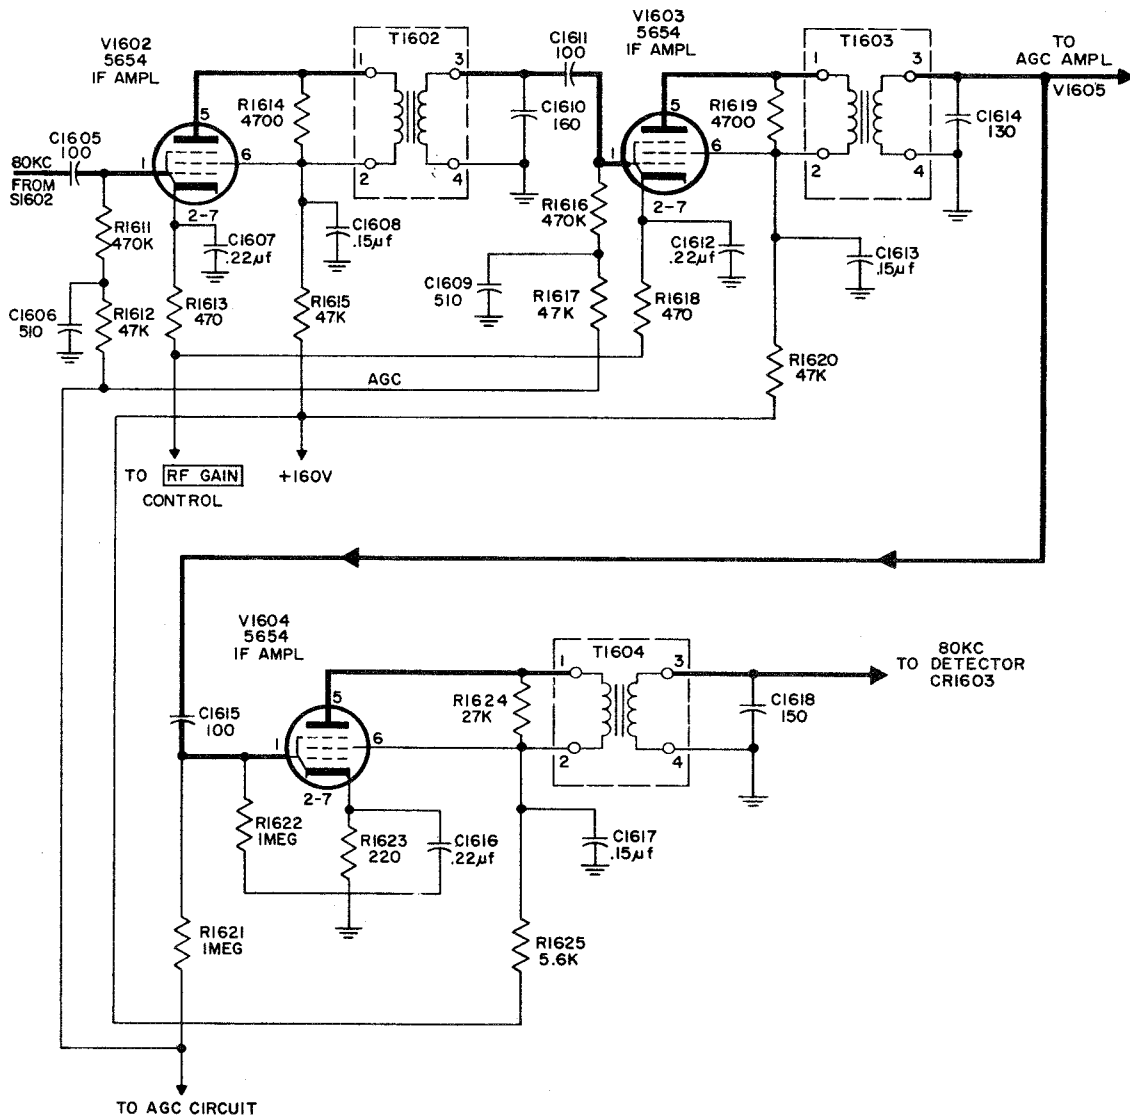
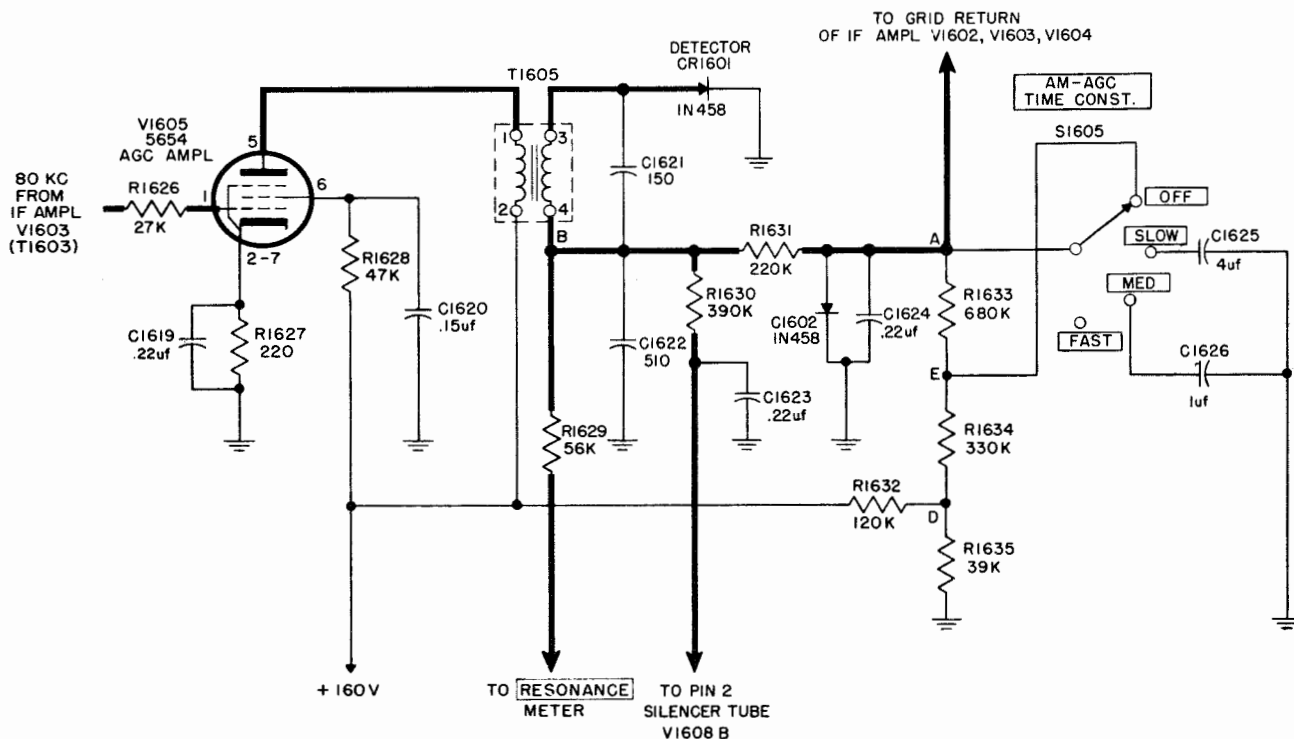

Figure 4-19. IF Amplifiers V1602, V1603, and V1604, Simplified Schematic Diagram
Figure 4-20. Automatic Gain Control Circuit of AM Detector-Amplifier, Simplified Schematic Diagram
Figure 4-19 shows the signal from the selected band-pass filter applied to V1602 through C1605. The output of V1602 is developed across IF transformer T1602 and applied to IF amplifier V1603 via C1611. The gain of V1602 and V1603 is governed by the R.F. GAIN control. The output of V1603 is developed across T1603 and applied to IF amplifier V1604 through C1615. A portion of this signal at T1603 is applied also to the AGC circuit. V1604 develops its output across T1604 and applies it to the detector stage (subpar. c). An AGC voltage is applied to the control grids of amplifiers V1602, V1603, and V1604 to maintain control of the output signal amplitude. The development of this AGC voltage is described in subparagraph b below.
b. AUTOMATIC GAIN CONTROL CIRCUIT. (See figure 4-20.)—An 80 kc IF signal taken from pin 3 of the secondary of interstage transformer T1603 (figure 4-19) is applied to the grid of AGC amplifier V1605. The amplified output of V1605 is developed at IF transformer T1605 and applied to the anode of AGC
of the AGC circuit (figure 4-20) the other, positive, from potentiometer R1664, which is part of a voltage divider between regulated +105 v and ground. Rotating the SILENCER control (upper demodulator panel) clockwise from its OFF position connects the cathode of V1608B to ground and simultaneously taps the voltage-divider network for a positive voltage to the grid of V1608B. If there is no signal at the receiver, the AGC circuit, being dependent for operation on an incoming signal, remains inactive. This makes the receiver extremely sensitive, permitting locally generated random noise and external interference to appear at the receiver output. With AGC inactive, the only voltage impressed on the grid of V1608B is that from voltage divider R1664. This makes the grid positive with respect to its cathode, resulting in a plate current sufficient to energize the coil of relay K1601, which is located in the plate circuit of V1608B. The plate current closes the normally open armature of K1601, grounding the input of the second AF amplifier (V1607) and preventing any signal from reaching the receiver output.